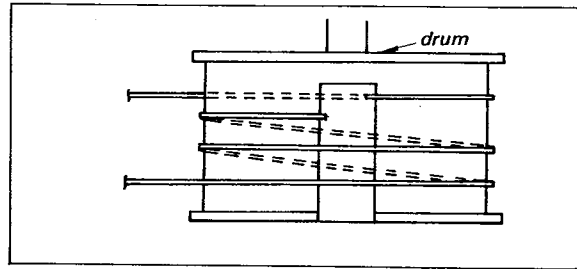

Fig. 2-8. Wrapping the dial cord
4. Run the cord over pulleys "B", "C" and "D", then wrap two clockwise turns around the drum from outer groove to inner groove as shown in Fig. 2-8.